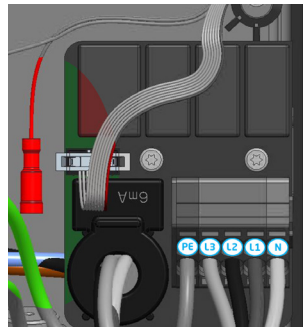

Figure 8: Connection clamps power cable and Control Pilot (CP) connector for the charging cable (red) to Pro-line
5. Attach the power cables to the connection clamps of the filter block (see figure 8).
10. Attach the Control Pilot (CP) connector to the red connection cable. This is right next to the connection terminal for the power cables. See figure 8.